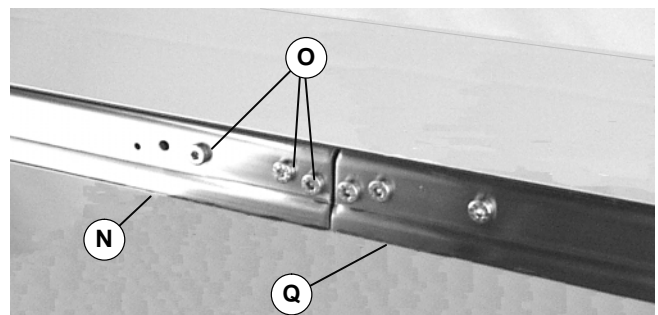

Figure 7
5. Join conveyor sections (N and Q of Figure 7). Install screws (O) on both sides. Tighten to 60 in-lb (7 Nm).